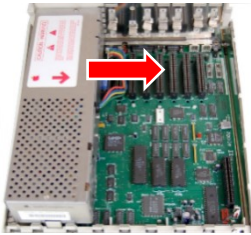

Fig. 3
- 2) Face the computer as you normally would if using it (keyboard toward you. Refer to Figure 3.).